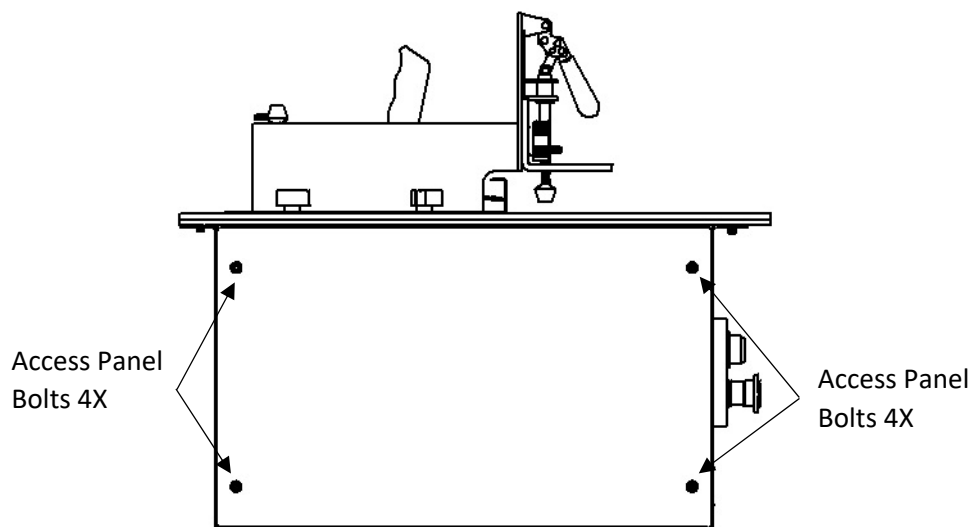

Figure 11: Access Panel Bolts
4. With the supplied 5/32" Allen wrench, remove the 4X screws from each access panel (Figure 11).